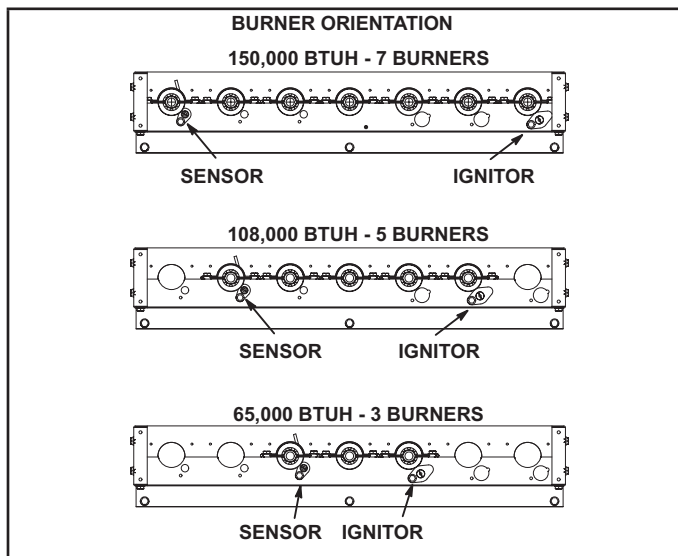

FIGURE 20
- 6 - Replace burners and screws securing burner. See FIGURE 20.